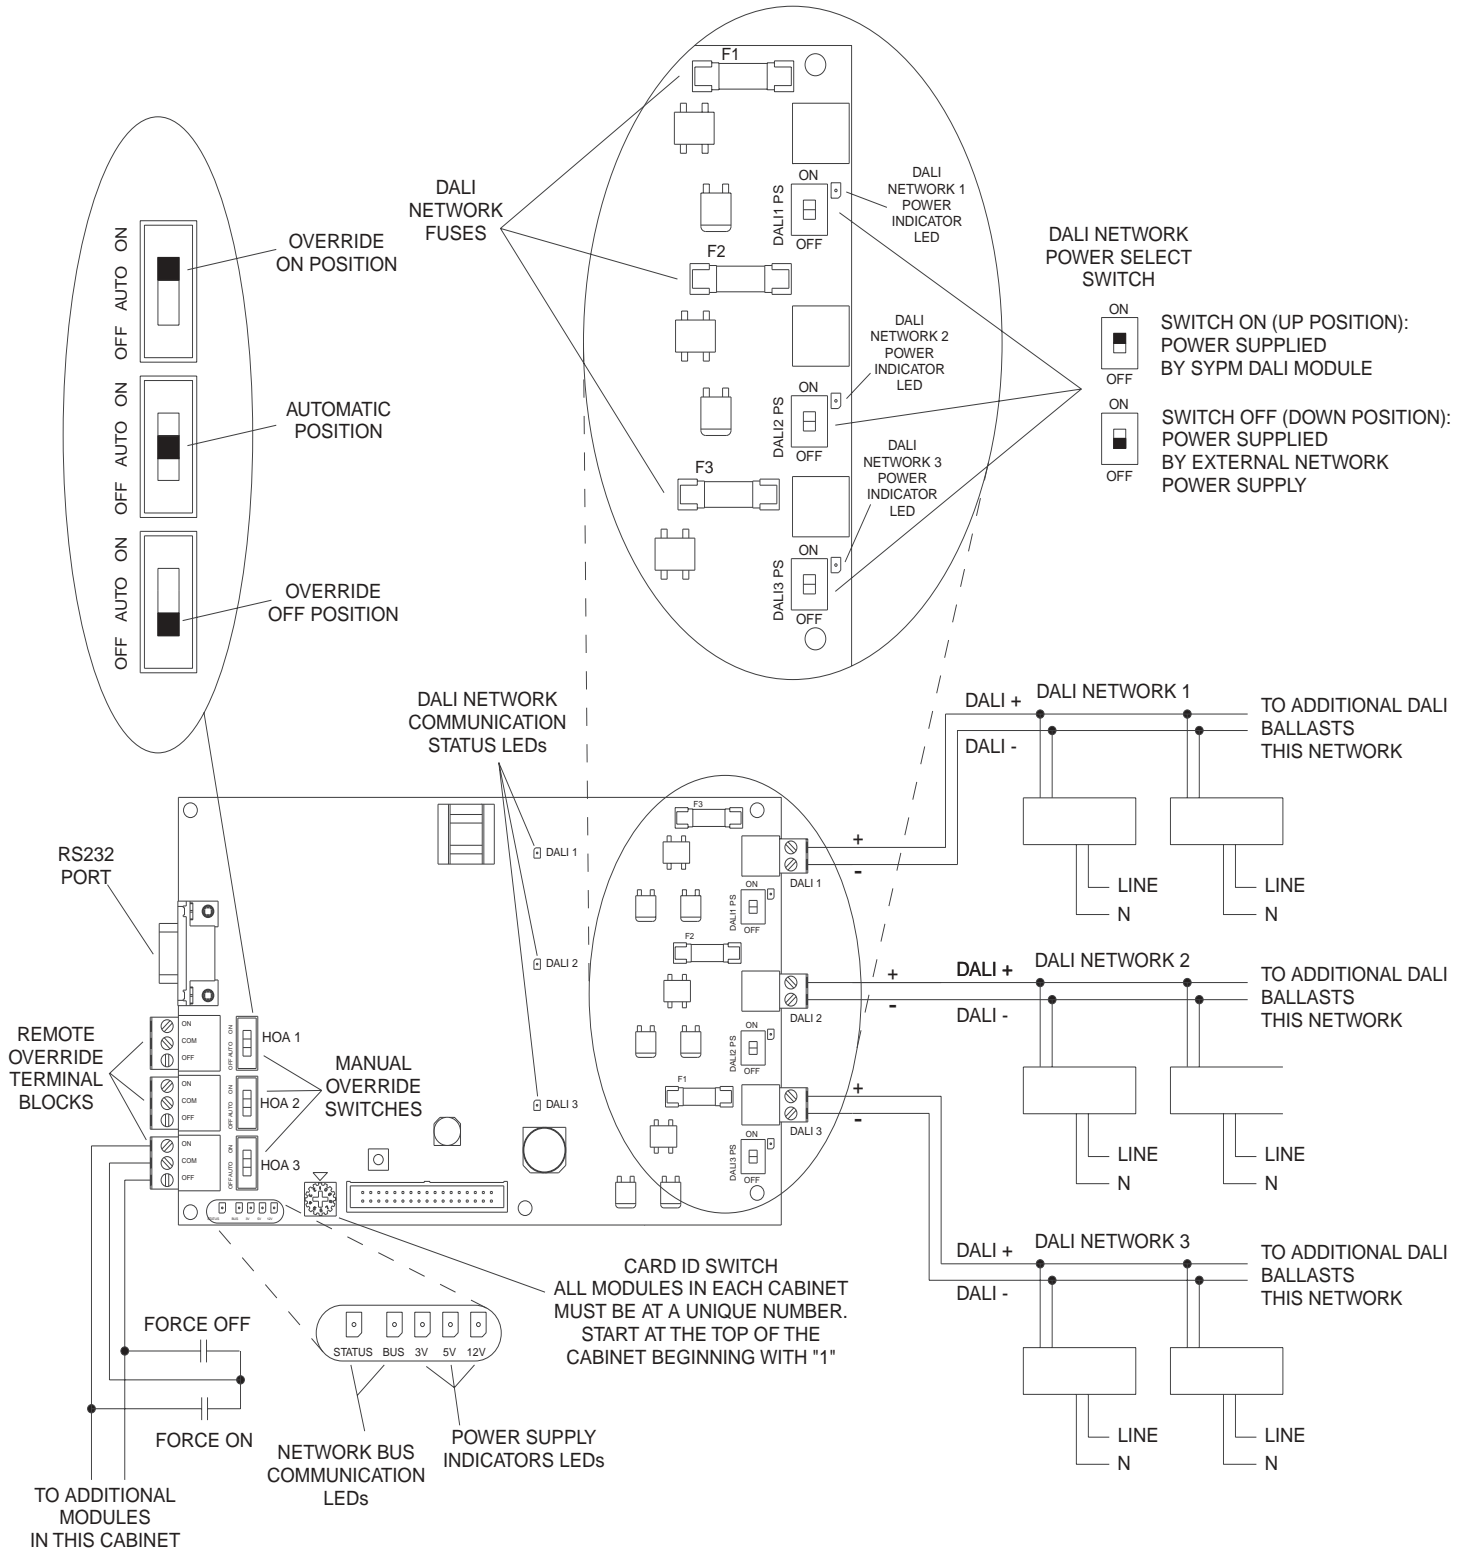

Figure 1 - SYPM DALI Wiring Detail
Rotate the power module card ID switch to the address **1** position. (See *Figure 1*) Plug the male connector on the ribbon cable into the female socket on the power module. **Ribbon cable installs behind the modules.**
Each DALI network has a pair of control wires. Each control pair should be terminated on a DALI network plug-in connector on the power module, (See *Figure 1*). Refer to Synergy supplied Installation drawings and any additional accessory instructions or project specifications for details. **A maximum of 64 DALI ballasts can be connected to a single DALI network.**
1. Verify the three "Manual Override Switches" are in the **ON** position. (See *Figure 1*)